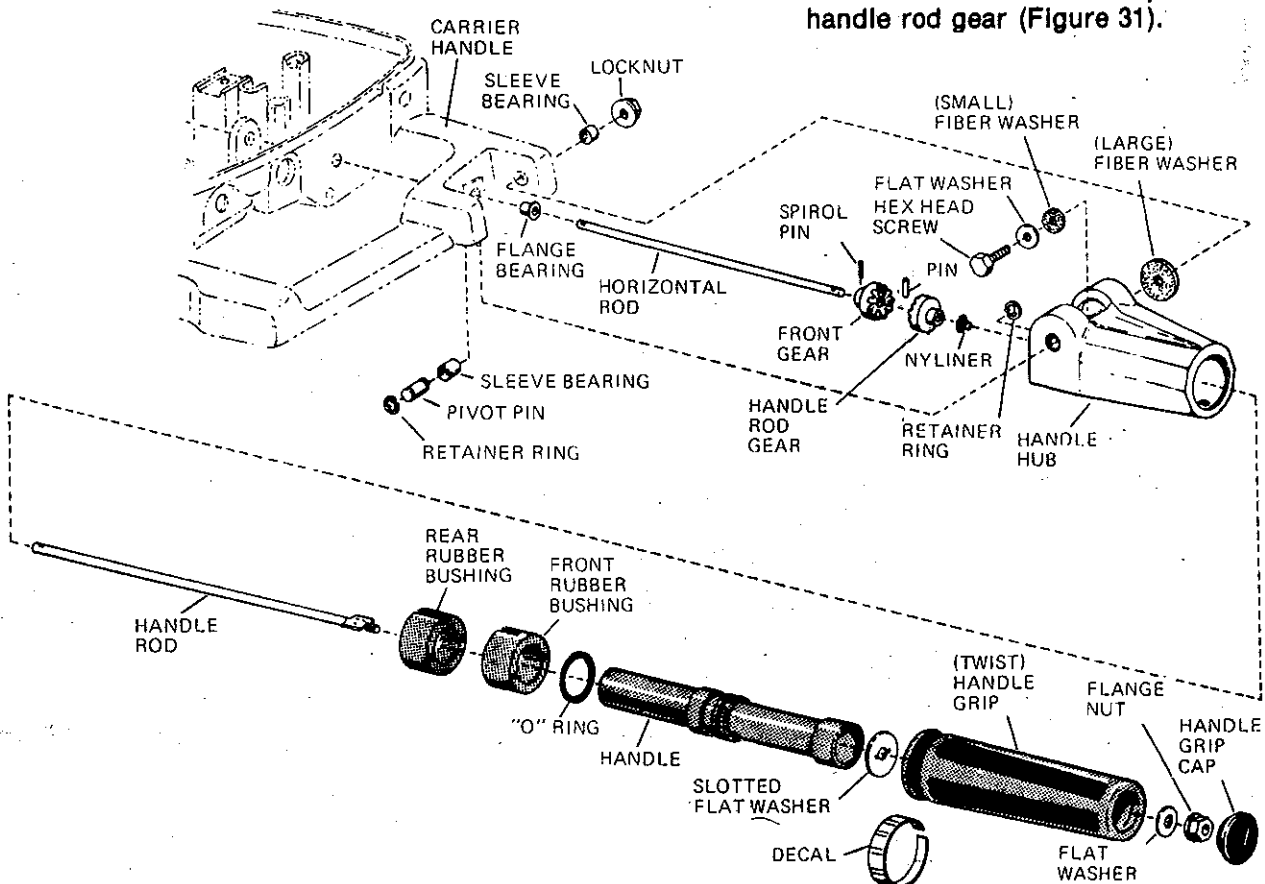
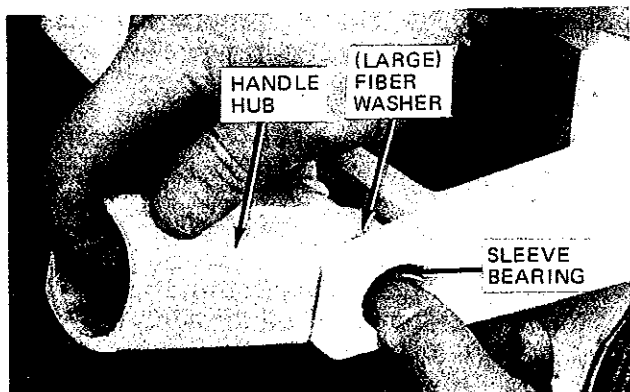

Figure 31
Figure 39
- c. With the handle hub at 90 degrees to the carrier handle, push down the handle rod and remove the pin from the handle rod gear (Figure 31).
- f. Use a pin punch and hammer to drive out the spiro pin in the front gear. Remove the front gear and flange bearing (Figure 31).
- j. Remove the handle hub and (large) fiber washer (Figure 31).
- (1) Place the handle hub and (large) fiber washer in position and insert the sleeve bearings into the carrier handle (Figure 39).
- (2) Install the pivot pin and replace the retainer ring.
- (3) Install the hex head screw, flat washer, and (small) fiber washer. Fasten with lock nut and tighten with a 1/2-inch socket wrench and a 1/2-inch open end wrench. Use Loctite "A", or equivalent on the nut.
- (4) Install the flange bearing and front gear. Replace the spirol pin using a hammer and punch.
- (5) Insert the (front) and (rear) rubber bushings; check for proper alignment and fit.
- (6) With the handle hub turned to a 90-degree angle to the carrier handle, install the nyloner and position the handle rod gear as shown in Figure 31.
- (7) Push the handle rod down through the handle hub, nyloner, and handle rod gear. Install the (gear) pin and pull the rod up through the handle hub.
- (8) Turn the hub handle back down to a position in line with the carrier handle and push in the handle. Install the slotted flat washer onto the handle rod and push on the handle grip.